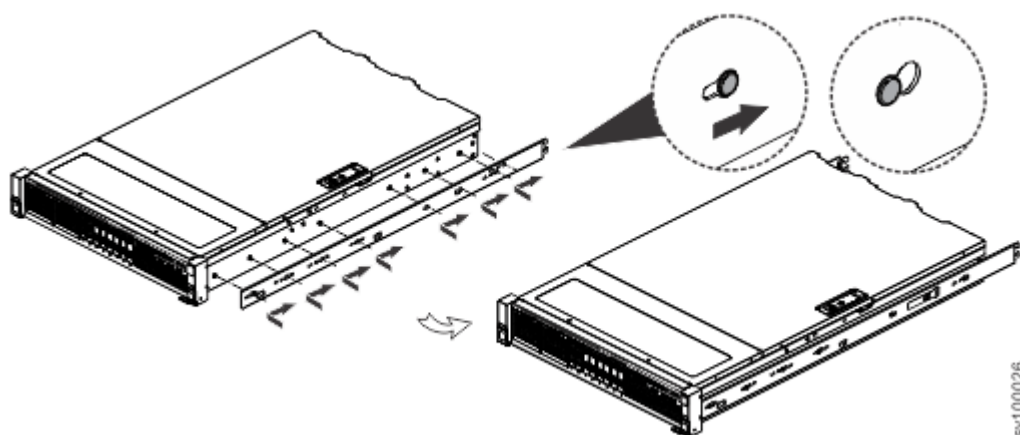

Figure 23. Attach inner rail section to chassis
- No screws are required. Fit the holes in the inner rail section over the heads of the pins on the side of the appliance, then slide the rail toward the rear of the appliance to lock, as shown in Figure 23 on page 22.